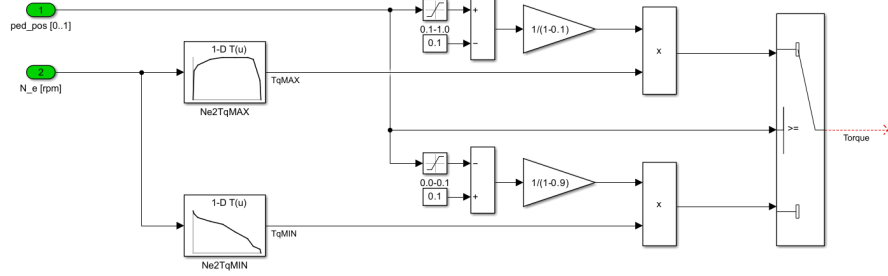

Figure 10: A proposed Simulink diagram for the gas pedal interpretation.
- Use the proposed diagram below (Figure 10) to implement your gas pedal interpretation. The torque-speed maps are found in the file `TqEvsNeMAP.mat`. Use **1-D Lookup Table** and **switch**-blocks. Set the threshold-parameter in the switch to 0.1.